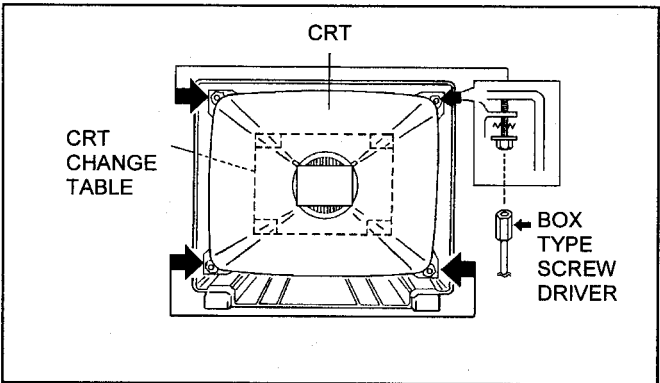

Fig. 4
2. While keeping the surface of CRT down, mount the TV set on the CRT change table balanced will as shown in Fig.4.
3. Remove 4 nuts marked by arrows with a box type screw driver as shown in Fig.4.